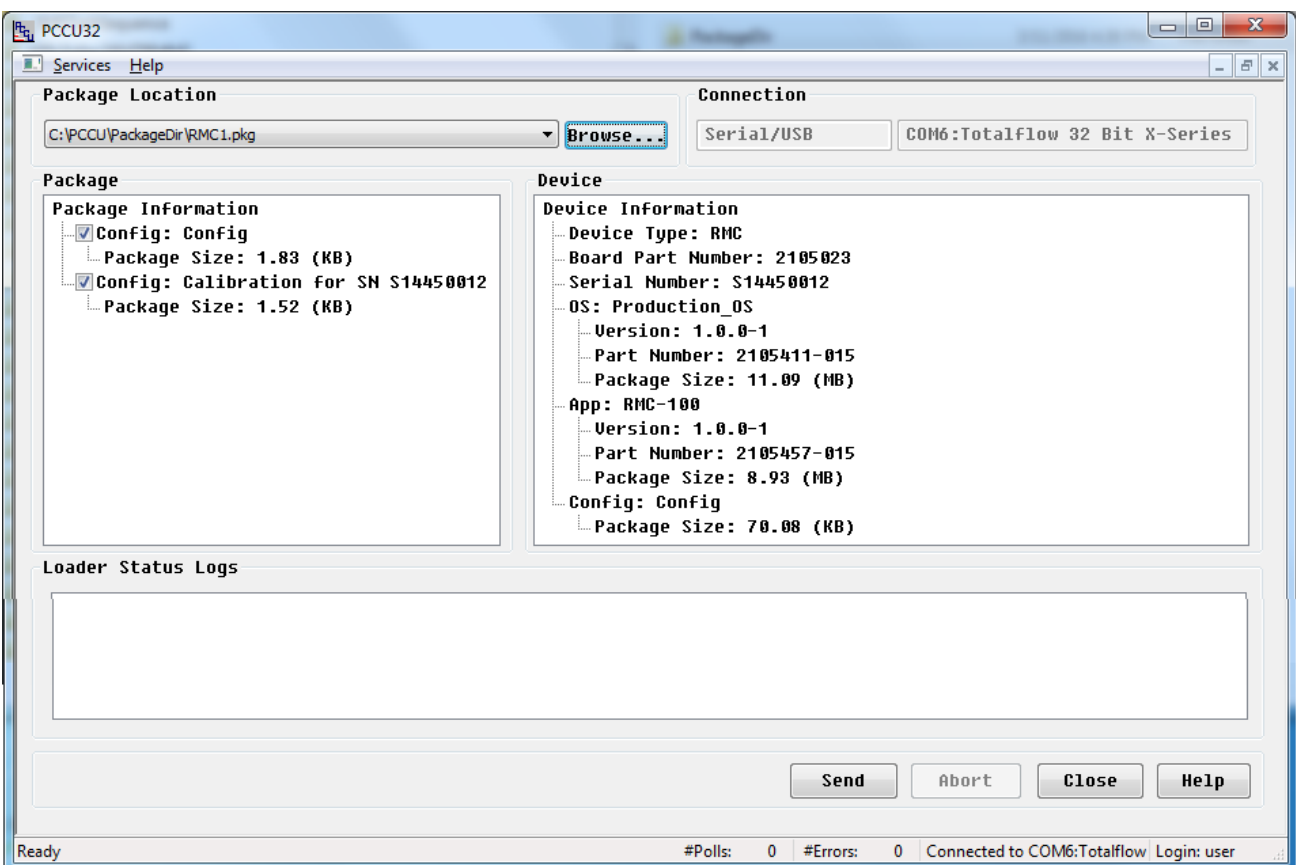

Figure 77: Restore a device configuration file
6. Locate and select the configuration file package and click **Open**. The selected package details display in the **Package** field (Figure 77).